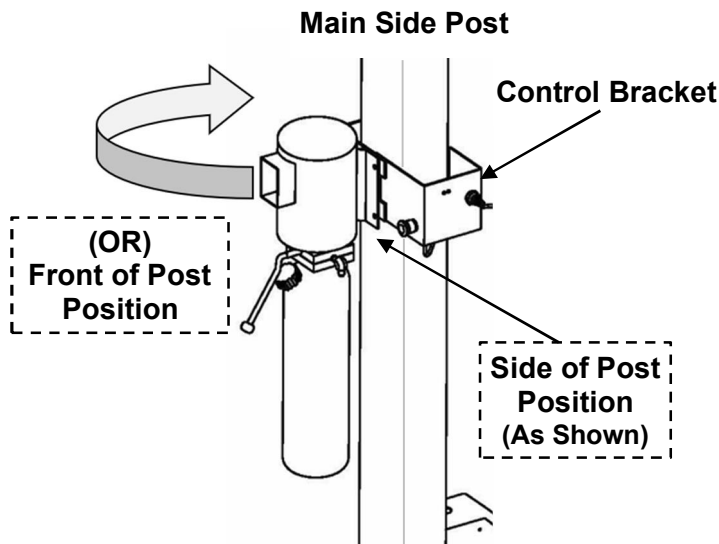

Fig. 20
**NOTE:** There are two positions for mounting Power Unit & Control Bracket - Side of Post or Front of Post. Choose the desired position that best fits the service bay area. (Fig. 20)
- 2) Mount Control Bracket to the backside of the Main Side Post Bracket's left side while using the same **M8 x 25mm Bolts, M8 Washers & Hex Nuts** to mount the Power Unit, **Fig. 20**. Ensure to tighten all Bolts to fully secure Power Unit & Control Bracket to Main Side Post.